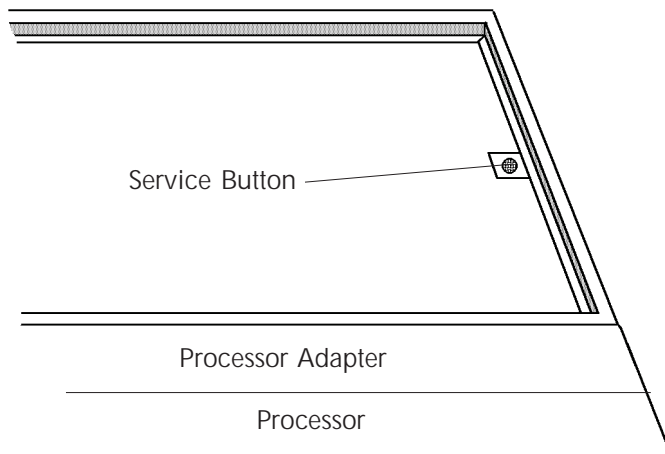

figure 5
3. Press the **Service Button** inside the Side-By-Side Kit (fig. 5). Then close the cover of the Side-By-Side Kit and the cover of the Processor Adapter again. The Side-By-Side Kit will now move to its home position and is ready to be used.